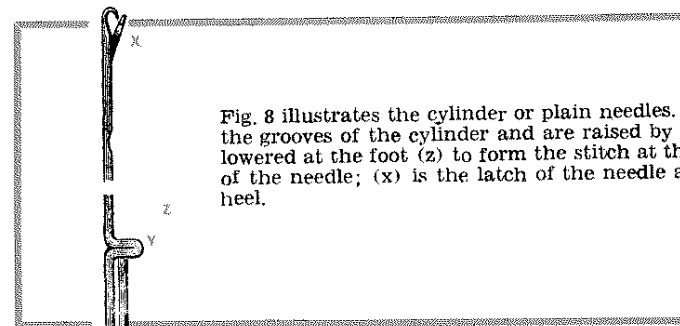

Fig. 8
Fig. 8 illustrates the cylinder or plain needles. These fit into the grooves of the cylinder and are raised by the cams and lowered at the foot (Z) to form the stitch at the top or hook of the needle; (x) is the latch of the needle and (y) is the heel.